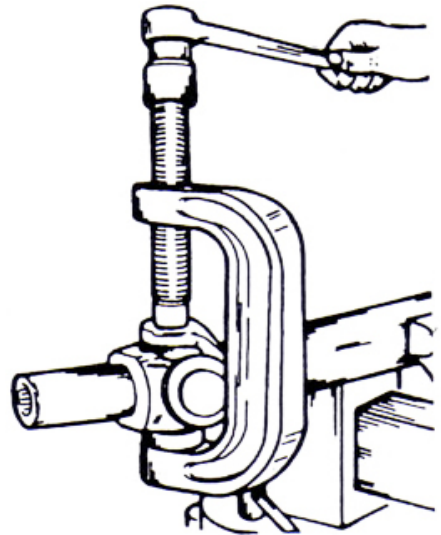

FIGURE 4
2. Position the C-frame press around the drive shaft yoke, and tighten the forcing screw until the first bearing is removed as shown in Figure 4.